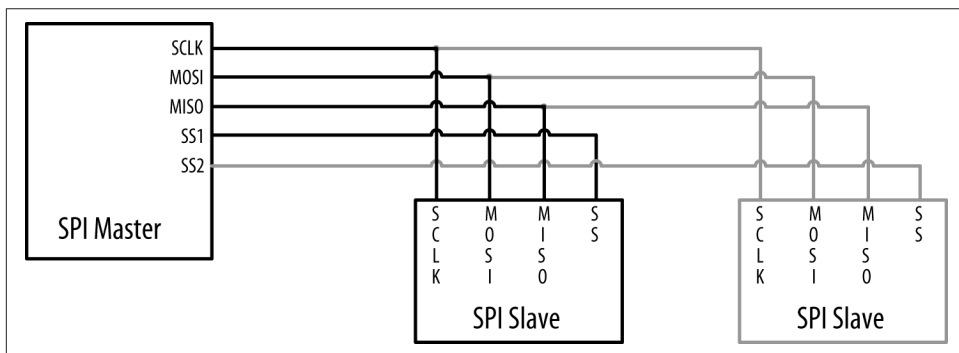

Figure 13-5. Signal connections for SPI master and slaves
The Arduino IDE includes a library that allows communication with SPI devices. SPI has separate input (labeled “MOSI”) and output (labeled “MISO”) lines and a clock line. These three lines are connected to the respective lines on one or more slaves/secondaries, which are identified by signaling with the Slave Select (SS) line, sometimes referred to as Chip Select (CS). Figure 13-5 shows the SPI connections.